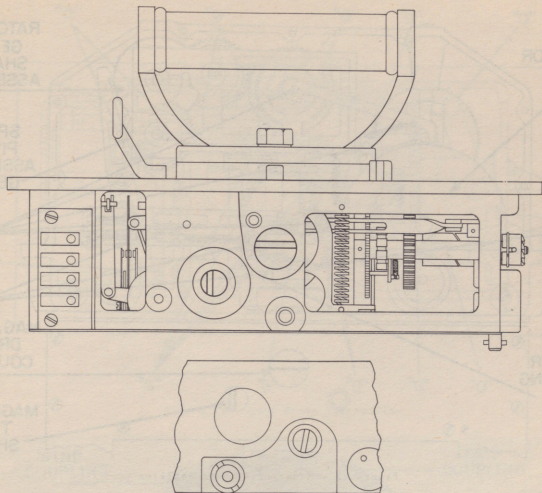

Figure 11 - Case Drive Couplings in Wound Position
(C), (D) in figure 11, at end of wind cycle. (Camera fully wound, not tripped.)